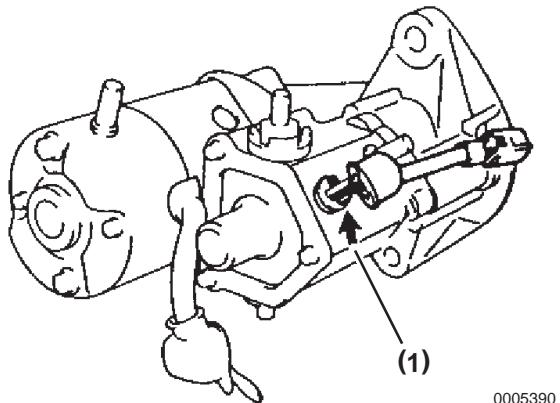

Figure 10-3
2. Remove the screw, washer and lead wire from terminal 50 (Figure 10-3, (1)).